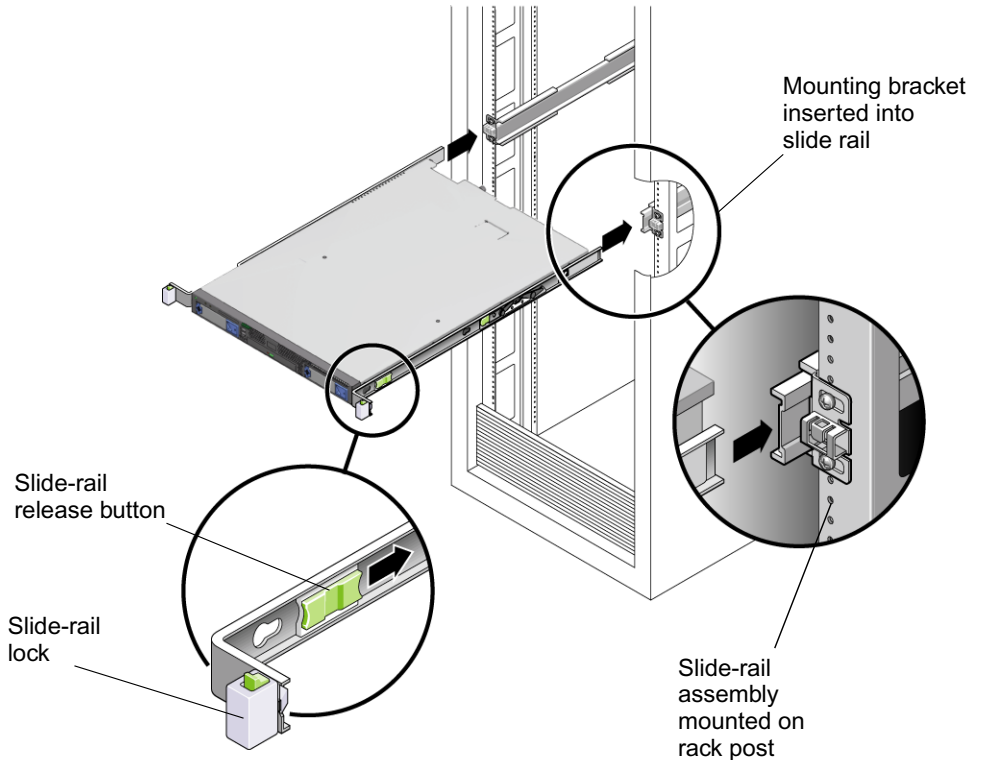

FIGURE C-6 Inserting the Server With Mounting Brackets Into the Slide Rails
2. Raise the server so that the rear ends of the mounting brackets are aligned with the slide-rail assemblies that are mounted in the equipment rack. (See FIGURE C-6.)
4. Simultaneously push and hold the slide-rail release buttons on each mounting bracket while you push the server into the rack. (See FIGURE C-6.) Continue pushing until the slide-rail locks on the front of the mounting brackets engage the slide-rail assemblies.
- b. The second set of stops are the slide rail release buttons, located near the front of each mounting bracket. See FIGURE C-6. Simultaneously push or pull both of the slide-rail release buttons and push the server completely into the rack until both slide-rail locks engage.